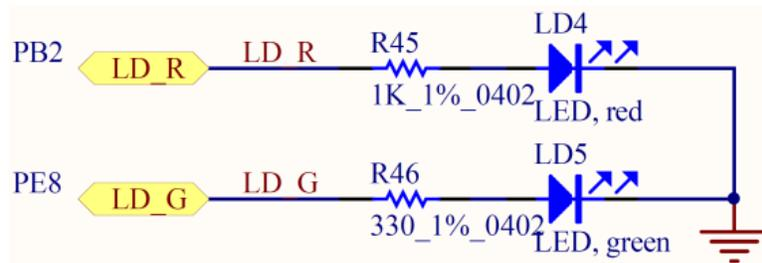
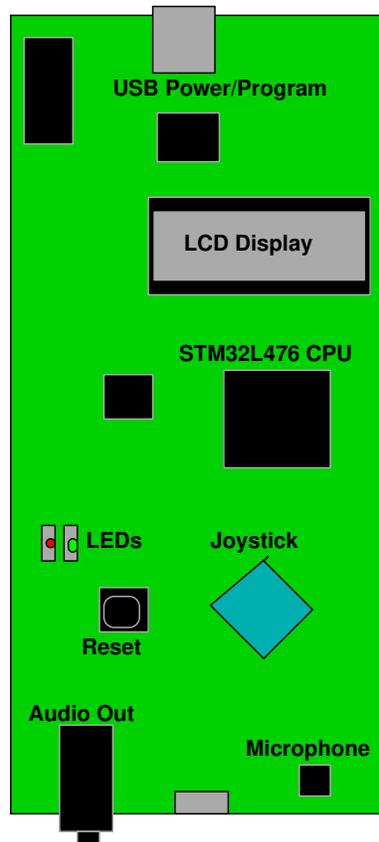
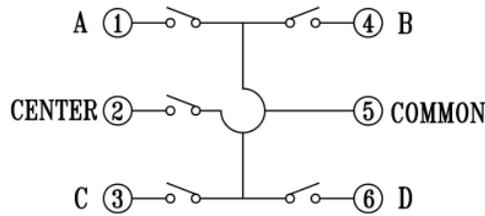

Figure 1: LED setup on the STM32L4
Figure 2: Rough diagram of components on STM32L4 board.
Figure 5: Joystick setup on the STM32L4
1. There are two user-controllable LEDs (light-emitting diodes) on the STM32L4 discovery board. The red one is connected to GPIO-PB2 (GPIO Port B Pin 2) and the green one is connected to GPIO-PE8 (GPIO Port E Pin 8). You can see a schematic of how they are physically connected in Figure 1. The LEDs are surface mount and a bit hard to see; you can find their location on the board in Figure 2.
1. There is a light-blue diamond shaped Joystick on the STM32L4 board (you can find its location in Figure 2). This consists of 5 buttons; the 4 directions as well as center when pressed. These buttons are connected to PA0, PA1, PA5, PA2, and PA3 as shown in Figures 5 and 6).
1. The joystick buttons on the STM32L4 board have hardware debouncing. An example of this can be seen in Figure 5. Explain briefly how this works.